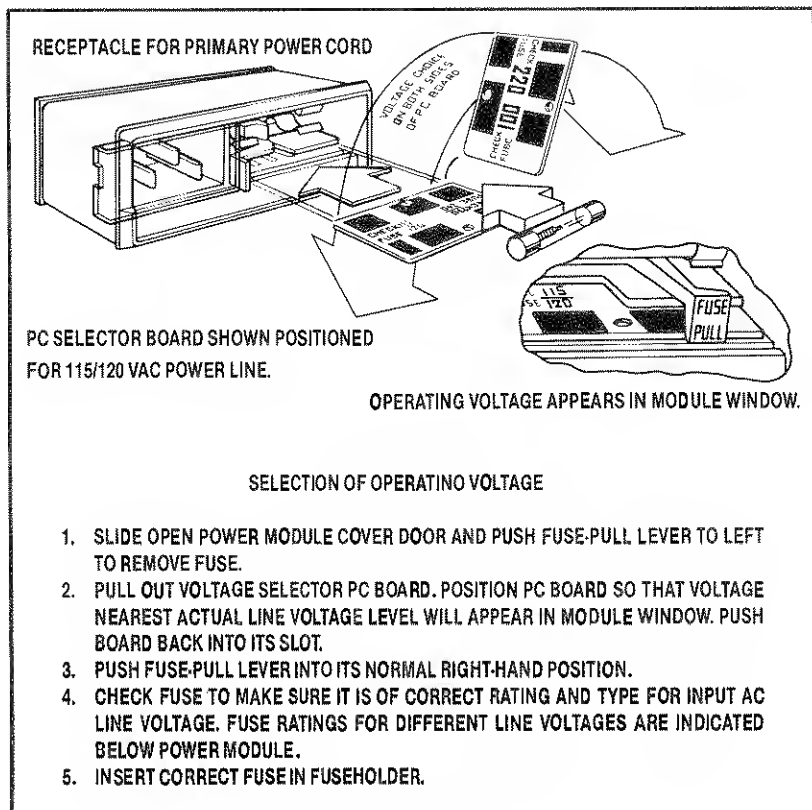

FIGURE 3. VOLTAGE SELECTION WITH POWER MODULE PC BOARD
2. Position the power line module PC Selector board (on the rear panel of each instrument section) as shown in Figure 3. If the line voltage is not within the instrument requirements, you must use an autotransformer between the ac source and the HP 8568B.